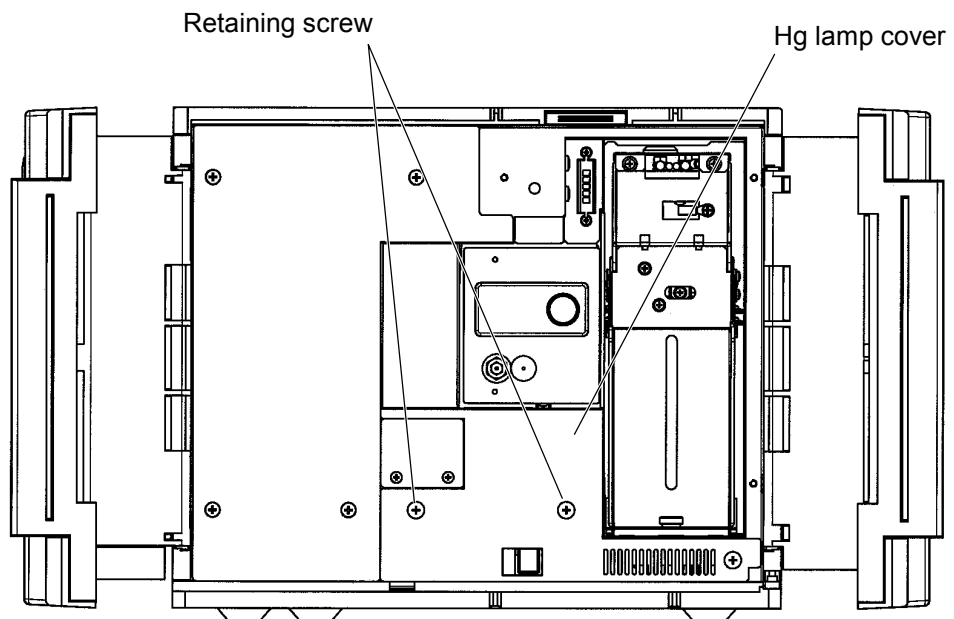

Fig. 5-12 Removal of Hg Lamp Cover
- (c) Loosen the screw retaining the mercury lamp cover (Fig. 5-12).